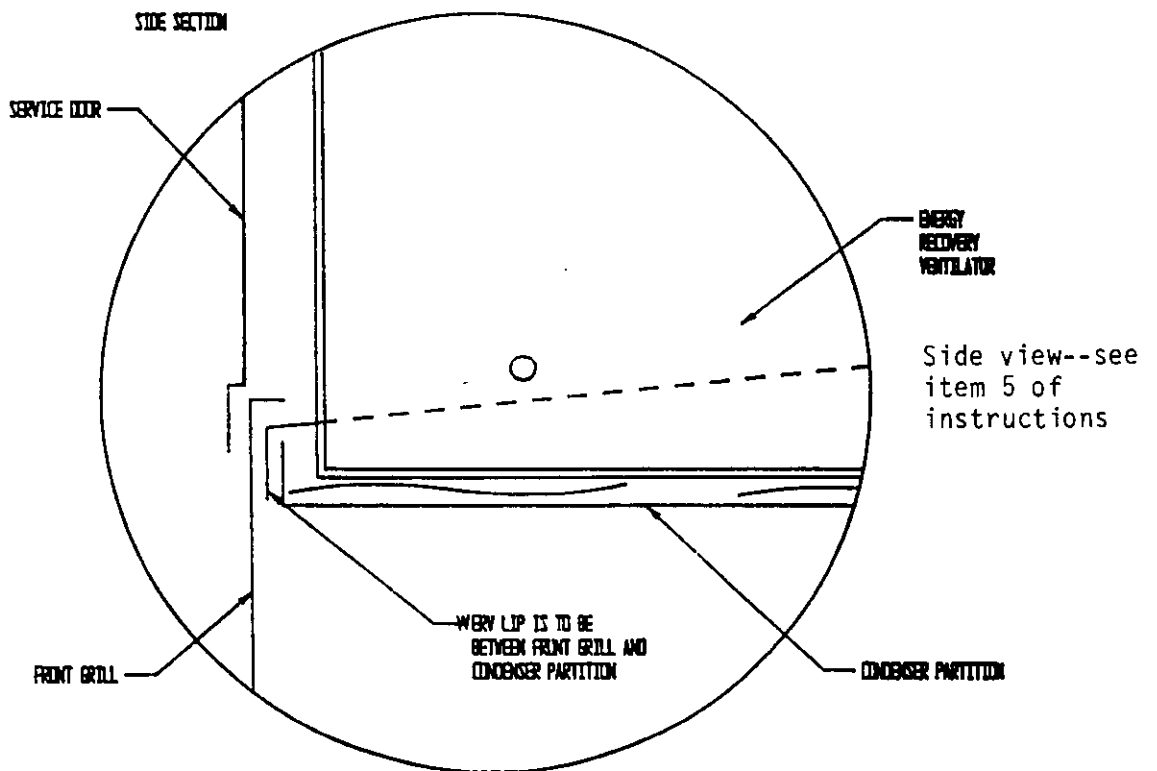

FIGURE 4
8. Connect leads with fork terminal to corresponding points on terminal strip to terminals C and G. (See Figure 4 on Page 8 and wiring diagram.)
9. Remove female plug of high voltage wiring harness from the heat recovery assembly and snap into unit control panel from the inside of the control panel in the hole provided. Wire to terminal block. See Figure 4 and wiring diagram.